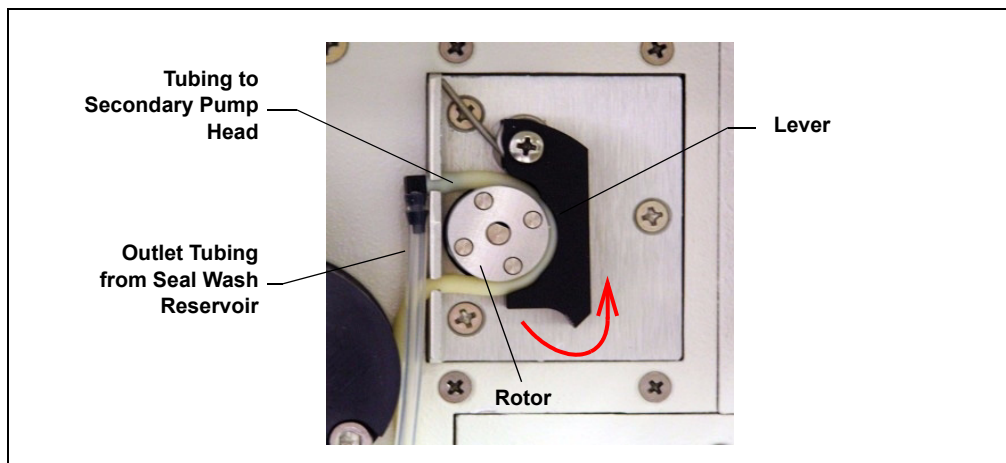

Figure 4-2. Peristaltic Pump
4. Check that the tubing is engaged in the peristaltic pump (see Figure 4-2). If it is not, lift the lever on the peristaltic pump up and to the right, insert the tubing neatly between the lever and the rotor, and release the lever to secure the tubing.